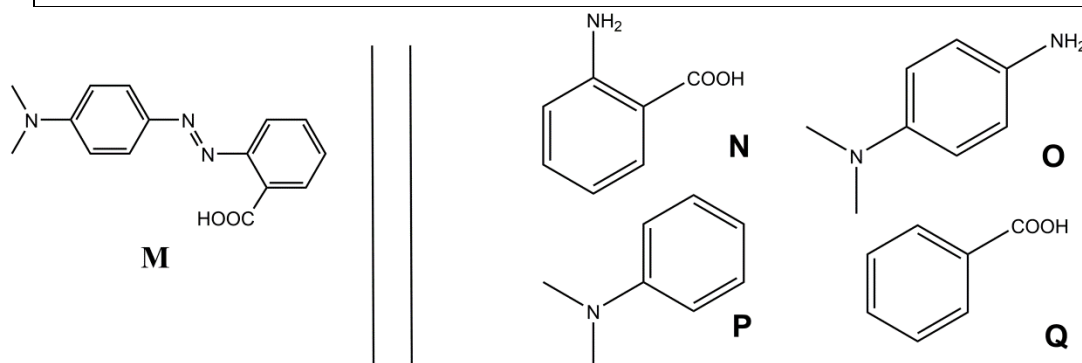

Fig. 1 – Possible reactants for the synthesis of **M**.
2. **M** can be synthesized in two steps from simple reactants (Fig. 1). **Choose** from the suggested reactants (**N** to **Q**) the ones that can provide **M** with very high regioselectivity. Sodium nitrite ($NaNO_2$) in cold aqueous hydrochloric acid is used as reagent for the first step of the synthesis.